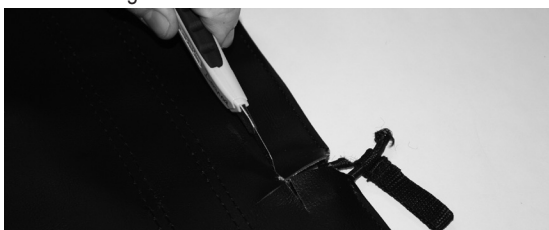

Figure 2
- ② Carefully make a second slit in a straight line directly across the first slit and below the bottom of the plastic bungee attachment points (see Fig. 2). **DO NOT** cut through the front side of the border.